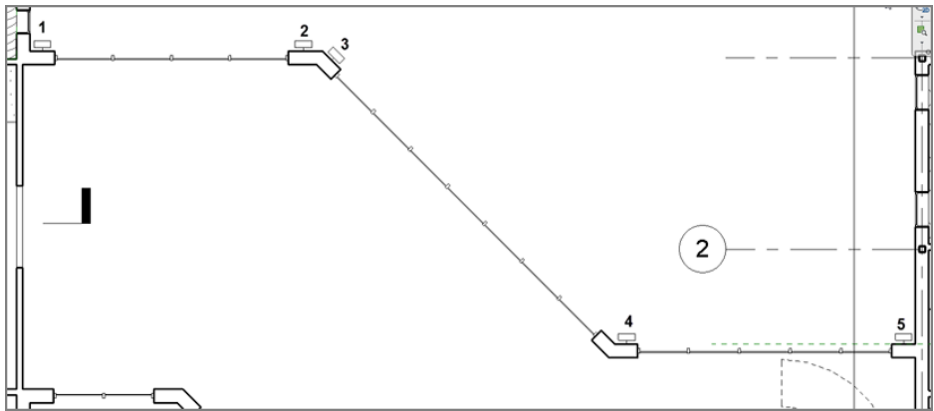

FIGURE 19.10: Placing the exterior lights
7. Place the lights at the locations shown in Figure 19.10.